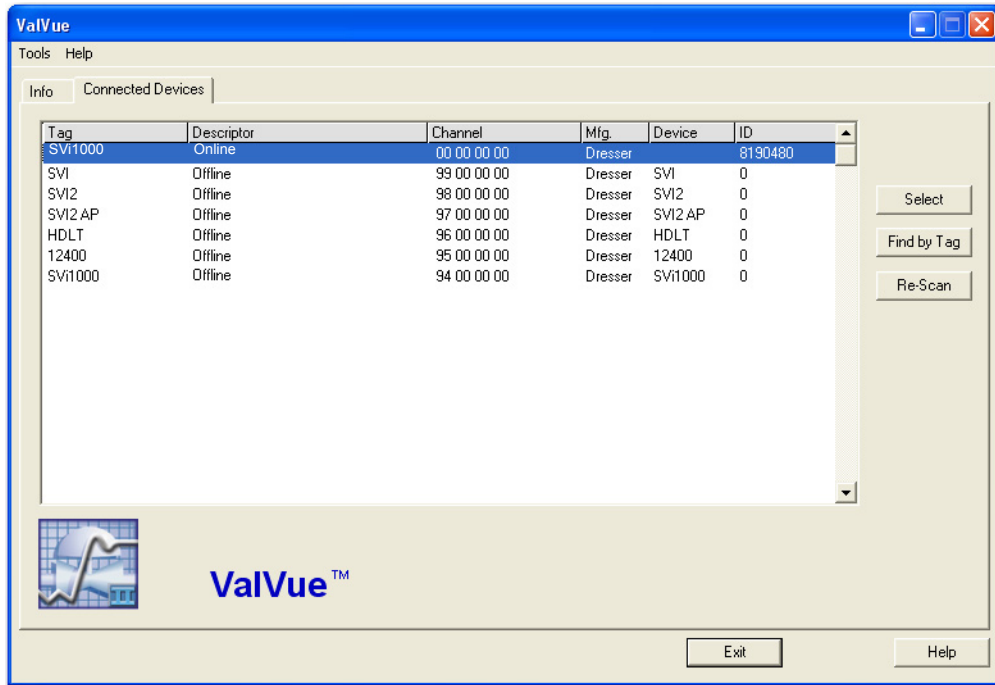

Figure 55 Connected Devices
5. Enter *admin* for *User Name*, click  and Figure 55 appears.